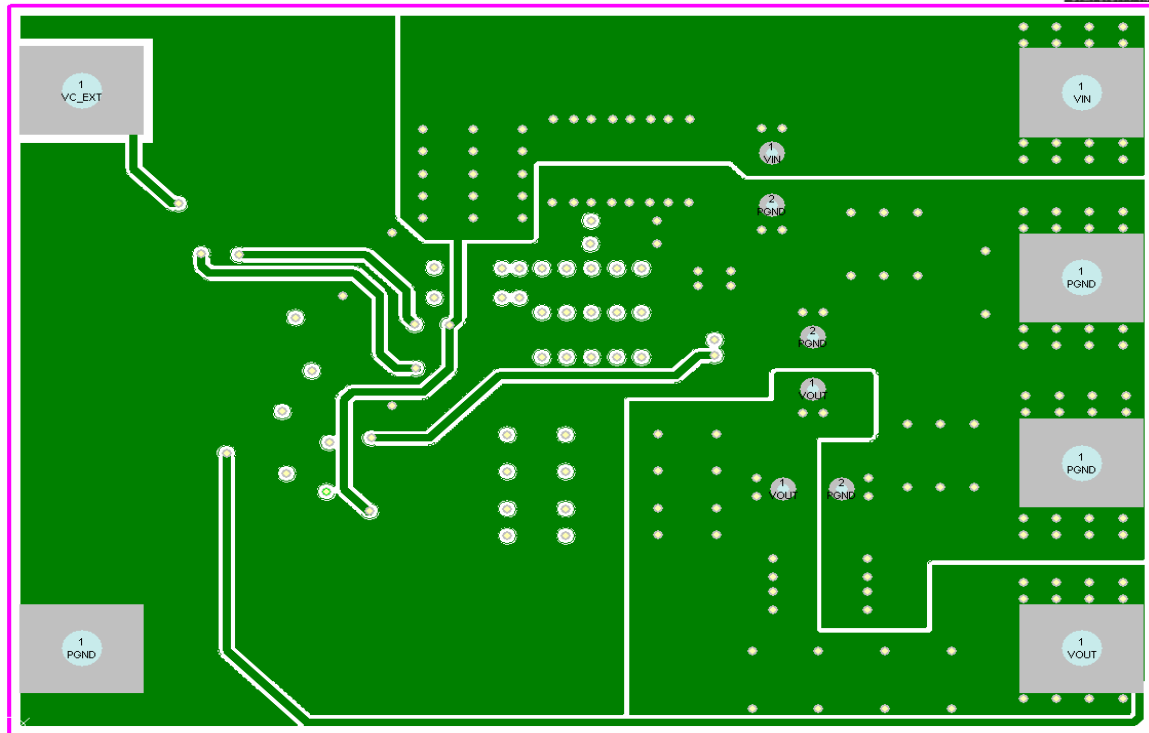

Figure 3c: IRPP3637-18A Reference Design mid-layer2 layout.
4. The feedback track from the output  $V_{OUT}$  to FB pin of the IC is routed as far away from noise generating traces as possible in mid-layer 2 as shown in figure 3c.